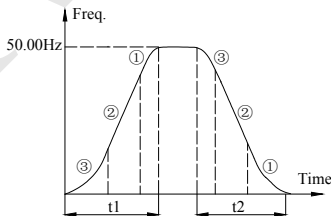

Fig. 7-2 S curve acc/dec
1: S curve Acc/Dec mode. Output frequency raise or decline as the S curve: as Fig. 7-2.
S curve starts interval time as Fig.7-2 ③, output frequency changed slope increase slowly from zero.
S curve up interval time as Fig.7-2 ②, output frequency changed slope is constant.
S curve ends interval time as Fig.7-2 ①, output frequency changed slope decrease slowly to zero.